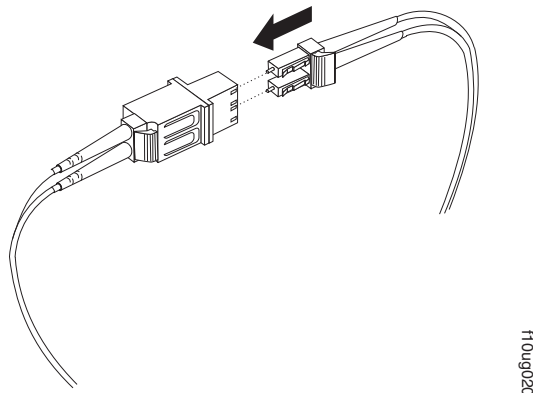

Figure 35. Connecting an LC-LC cable into the LC-SC cable adapter
4. Carefully insert the other end of the LC-LC cable into the LC connector end of the LC-SC cable adapter as shown in Figure 35. Push in the connector until it clicks into place.